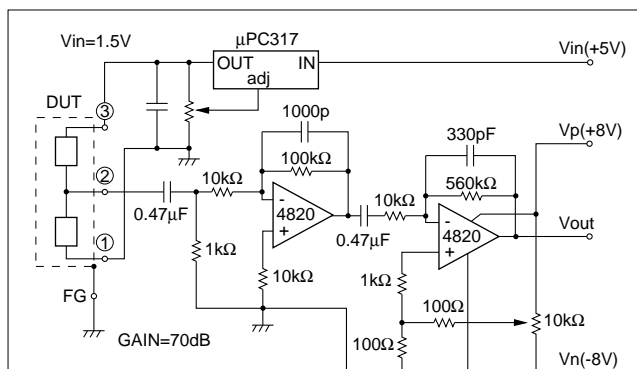

Fig.1 Amplifier for Output Voltage Measurement
1. Amplifier's gain is set to 70dB at the frequency of 500Hz. Fig.1 shows the detail of amplifier.